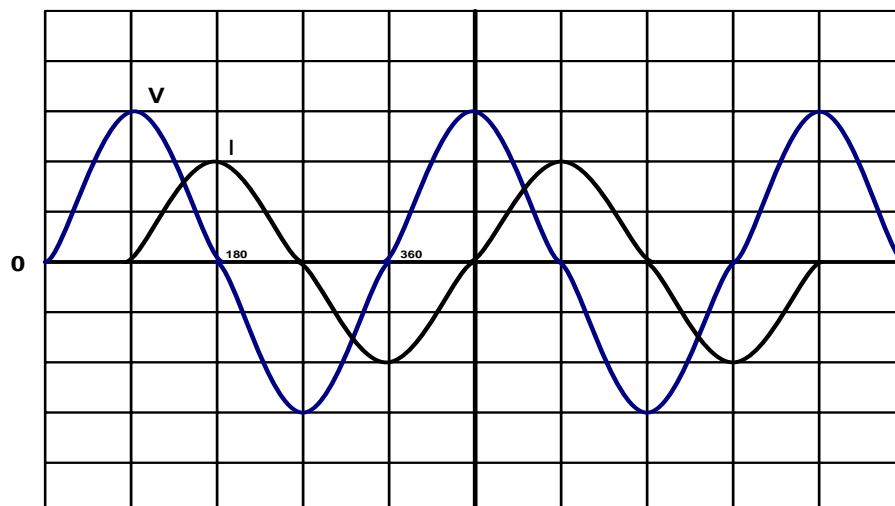

FIGURE 6.3: RL CIRCUIT WAVEFORMS
- 6.3 Study FIGURE 6.3 below and answer the questions that follow.